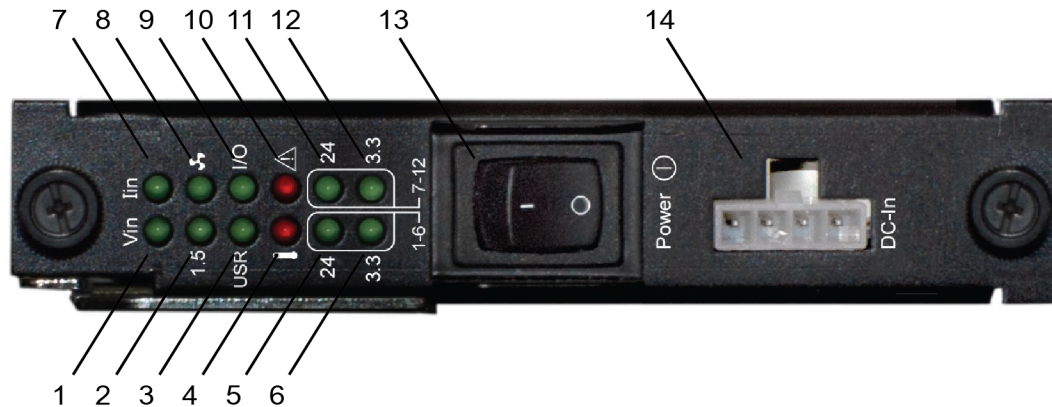

Figure 2-13 DNR-POWER-DC Front Panel (HalfRACK and RACKtangle only)
- **DNR-6-1G and DNR-12-1G:** The power module in a RACKtangle and HalfRACK chassis is the DNR-POWER-DC, which is always installed in slot 1 of the chassis. Power is connected via a Molex connector on the DNR-POWER-DC. Ports and LEDs on the DNR-POWER-DC module are shown in **Figure 2-13** and described in **Table 2-11**.
The ports and LEDs of the DNR-POWER-DC module are illustrated in **Figure 2-13** and described in **Table 2-11**.